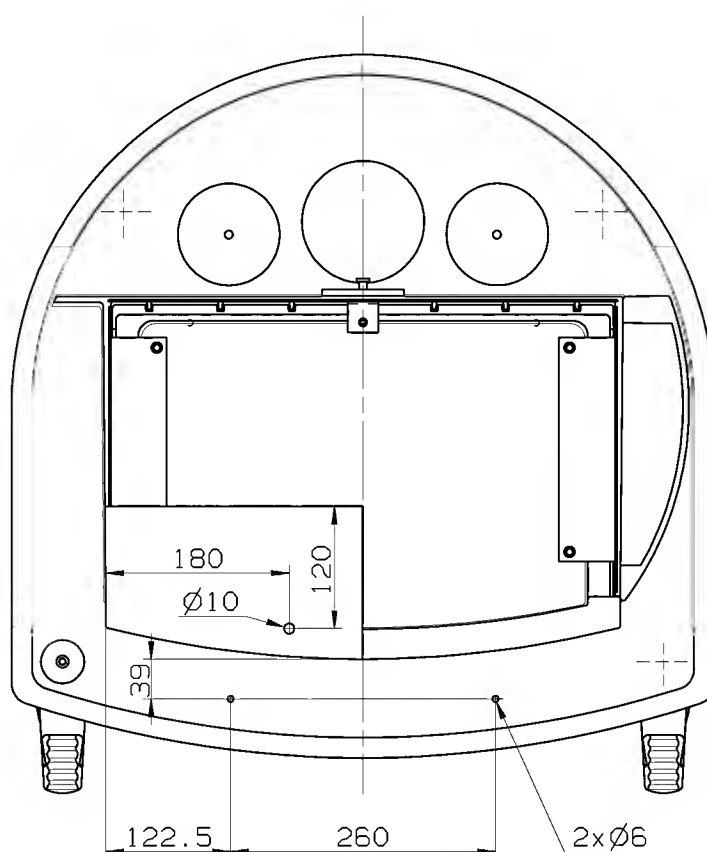

Figure 3
4. Mark and drill holes for the cover in the chassis platform, 6 mm in diameter, as shown in Figure 3, 122.5 mm from the outer left edge of the chassis and 47.5 mm into the curvature with a distance of 260 mm between the holes. In order to secure the upper part of the screen (8602578), remove the breathing system; mark and drill a hole, 10 mm in diameter, 180 mm from the left side and 120 mm from the rear edge relief. Work hole using round file if necessary.